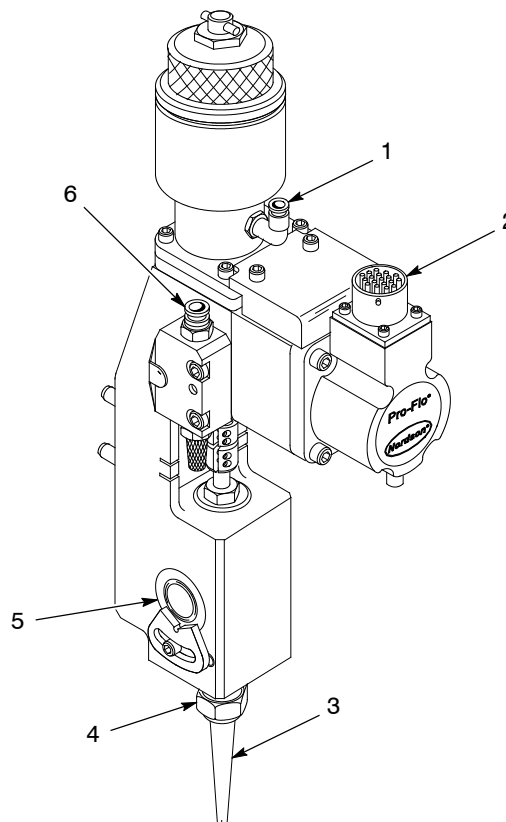

Figure 3 Connections (Heated Gun Shown)
See Figure 3. Follow these procedures to make the necessary connections for the Pro-Flo III Hi-Flo applicator.
See Figure 3. Place the nozzle nut (4) over the nozzle and tighten securely to the actuator body.